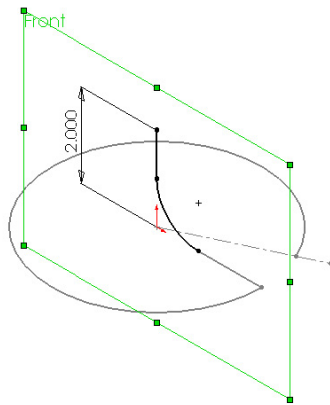

Figure 3 Creating the second sketch on the Front plane.
13. Create a new sketch on the **Front** plane. Sketch the geometry is shown in figure 3. Add **tangent** relationships to the arc to fully define it. The arc must be coincident to the end of the first sketch, which is also visible in figure 3.